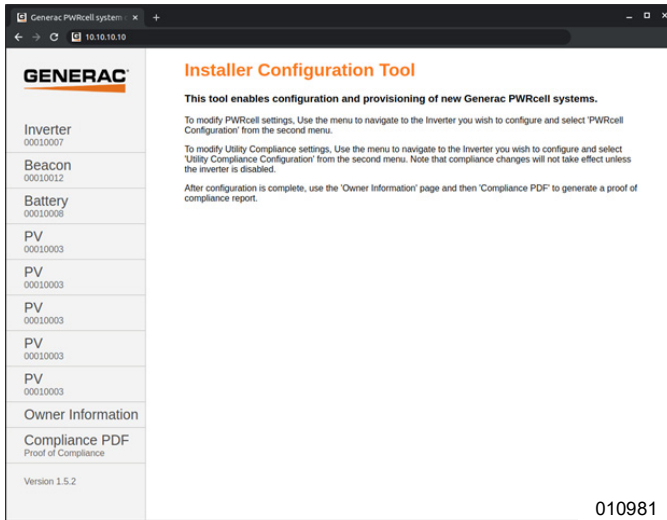

Figure 6-27. Installer Configuration Tool
5. See Figure 6-27. Open a web browser on a smartphone or laptop and enter 10.10.10.10 for the browser URL. The installer tool will appear in the browser.